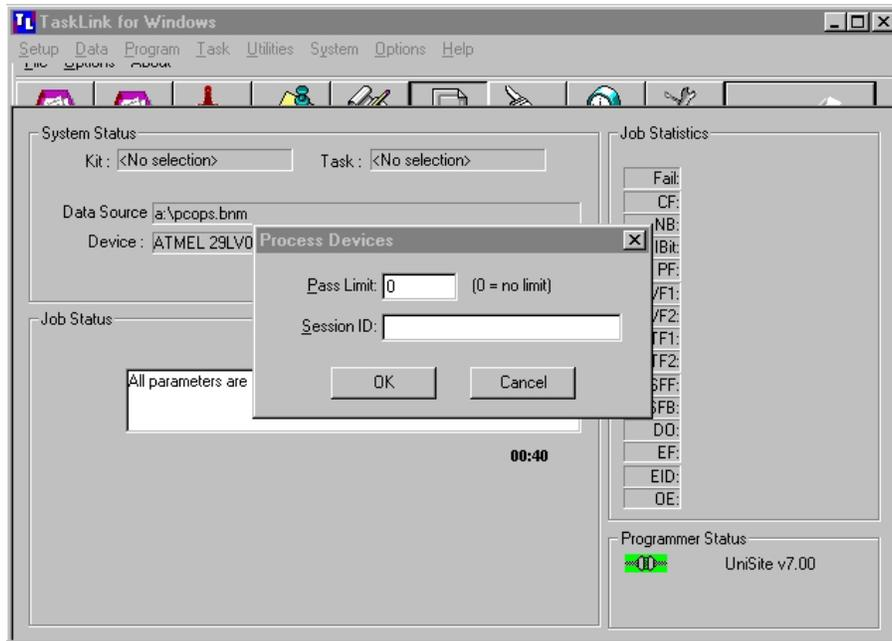

Fig. 9. TaskLink. Process Devices procedure
8. Select **OK** in the Process Devices window (see Fig. 9).